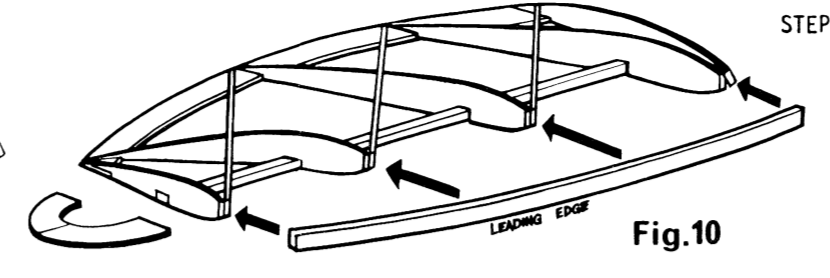
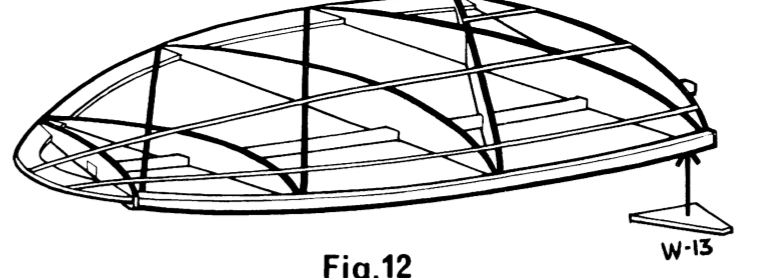

Fig. 10
Fig. 12
STEP 11. Now glue W 11 to W 12. When dry, glue to W 8 (Fig. 10) at angle shown as in FIG. E. Cut leading edge spar to length (FIG. D) and glue to front of ribs, pin to hold in position while drying. (Note it will make assembly of leading edge spar much easier if it has been bent first by wetting one side and slowly and carefully bending to shape desired.) When dry pins may be removed. Proceed by gluing W 13 into place (Fig. 11). Now complete wing by gluing top stringers into notches (Fig. 12), trim off excess when dry. Repeat wing assembly steps for other wing half. Finish leading edges by trimming excess wood and sanding to rounded edge (Fig. 13). Trailing edges can also be sanded and rounded at this time.